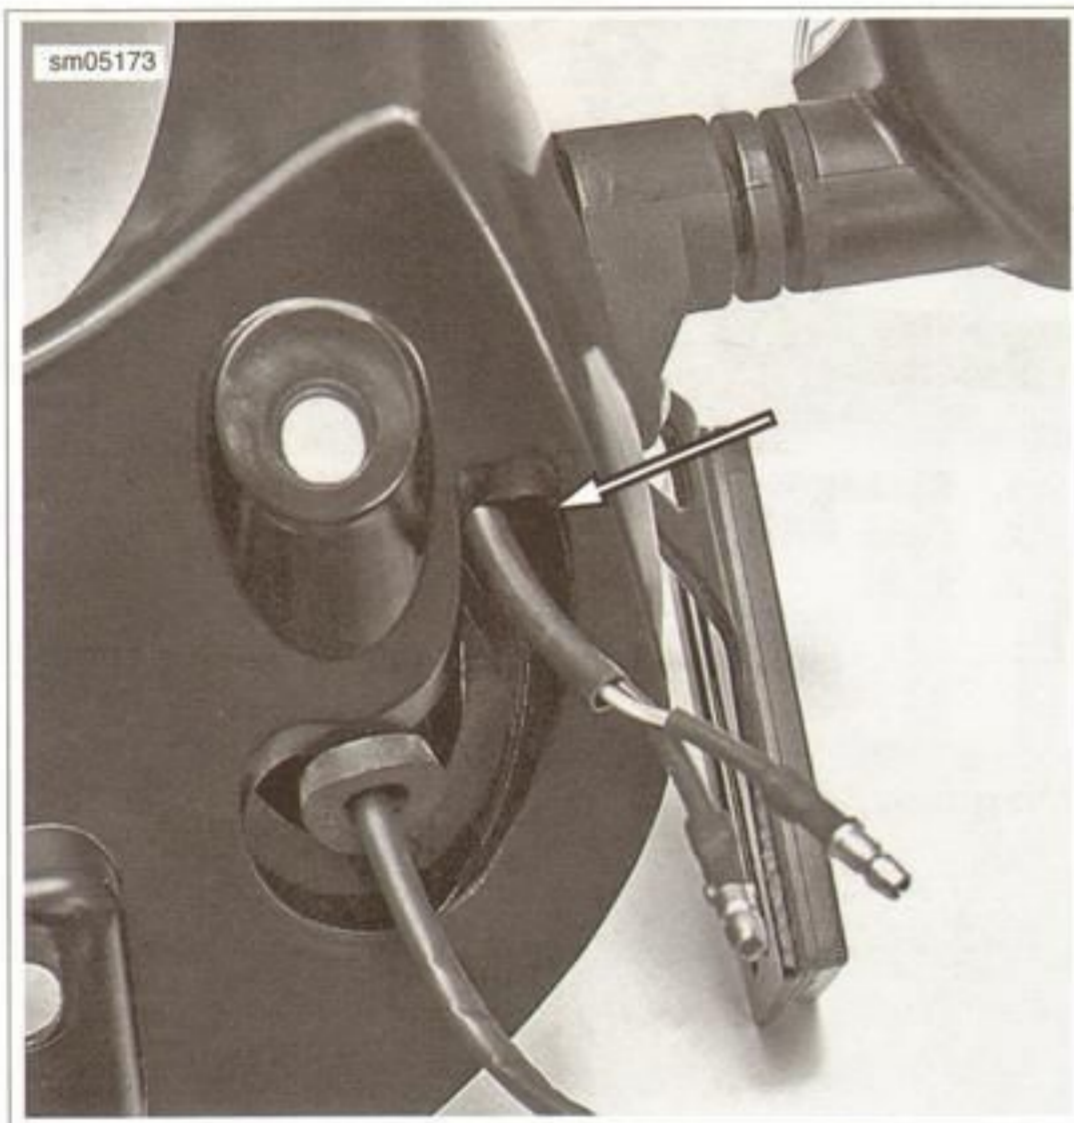

Figure 7-65. License Plate Wiring Through J-shaped Opening
4. See Figure 7-65. To install, push terminals and leads into access hole and through the J-shaped opening in license plate bracket.